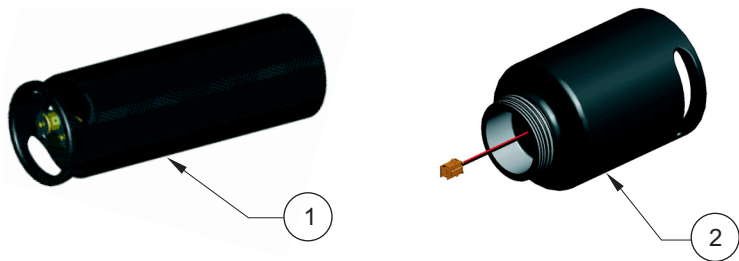

Figure 15 911 Flow Meter Case and Battery Packs
- 3. Reinstall the rechargeable battery. Attach the battery connector to the center mounted connector at the bottom of the 911 case (Figure 15).